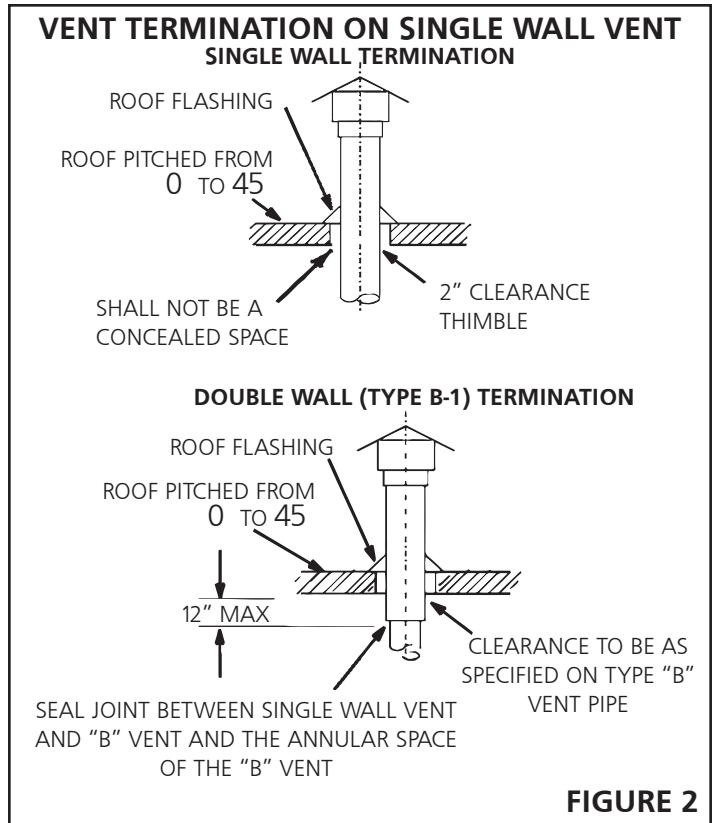

FIGURE 2
1. **US:** HSU unit heaters are to be used with NFPA- or ANSI-approved chimneys, U.L. listed type B-1 gas vents, single wall metal pipe, or listed chimney lining system for gas venting where applicable, as well as the modifications and limitations listed in figure 2. Seal single wall vent material according to the section A - General Recommendations and Requirements.
- When termination is routed through an exterior combustible wall the vent must be supported using a listed clearance thimble. Seal the connection between the single wall and double wall pipes and the annular space of the double wall pipe as shown in figure 2. Inside edge of vent termination tee must be at least 12 inches from outside wall as shown in figure 3.